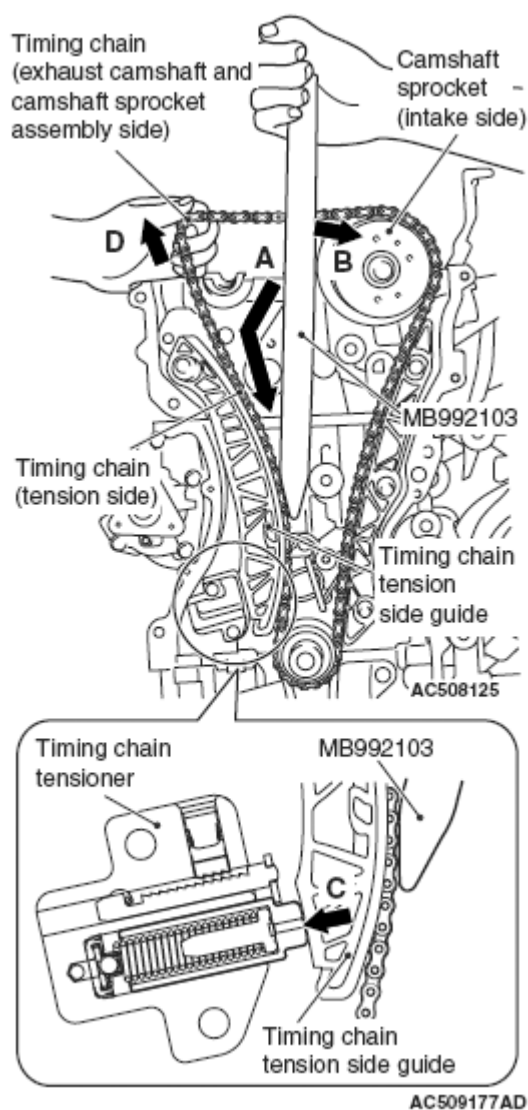

Fig. 47: Pressing Special Tool Intake Side Camshaft Sprocket And Timing Chain Tension Side Guide
3. With the timing chain tensioner unlocked, insert special tool MB992103 inside the timing chain case assembly along the tension side of the timing chain until the insertion guide line aligns with the upper surface of the timing chain case assembly (A in Fig. 47.)
4. With the special tool inserted up to the insertion guide line, press the special tool MB992103 against the intake side camshaft sprocket (B in **Fig. 47**) and spread and hold the timing chain tension side guide (C in **Fig. 47**.)
6. Pull up the camshaft and camshaft sprocket assembly (exhaust side) mounting area of the timing chain (D in **Fig. 47**) to provide allowance for easy installation of the camshaft and camshaft sprocket assembly (exhaust side) to the timing chain.